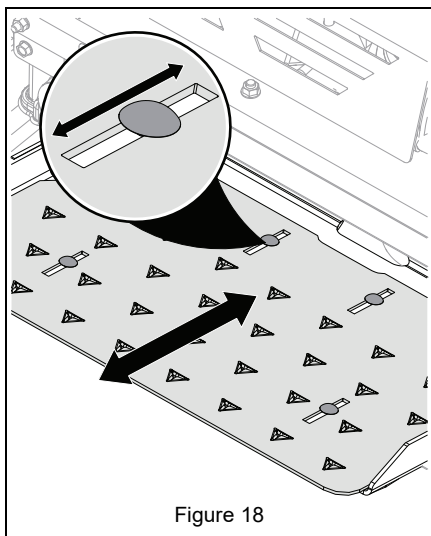

Figure 18
2. Slide platform forward or rearward to the desired position, then tighten hardware. See Figure 18.